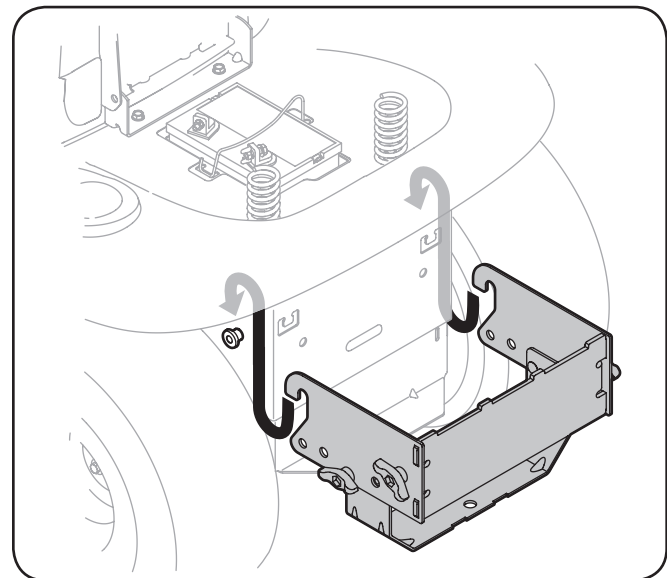

Figure 4-5
2. Install the clevis pin from hardware pack 689-00087 into the tractor's hitch and secure with a hairpin clip. See Figure 4-5.